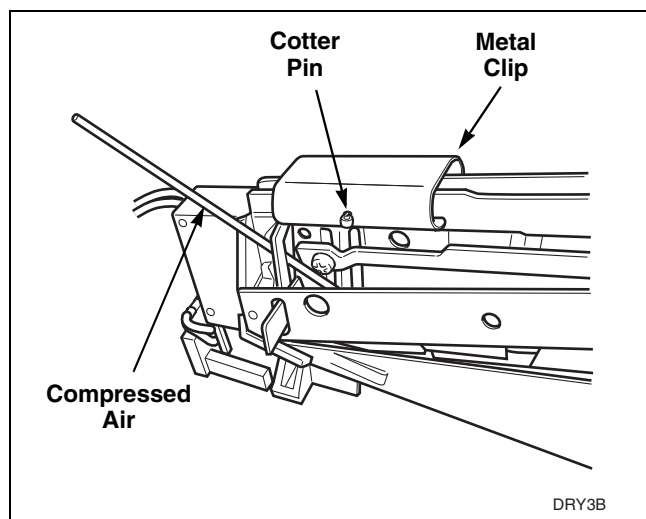

Figure 20
- c. If lint is preventing coins from rolling through coin drop, blow compressed air through coin entry and along the side of the coin drop. Refer to *Figure 20*.
- e. Remove cotter pin from top of drop. Refer to *Figure 20*. Save pin for reinstallation when cleaning is complete.
- f. Move metal clip closer to sensor so that it comes off frame. Refer to *Figure 20*.